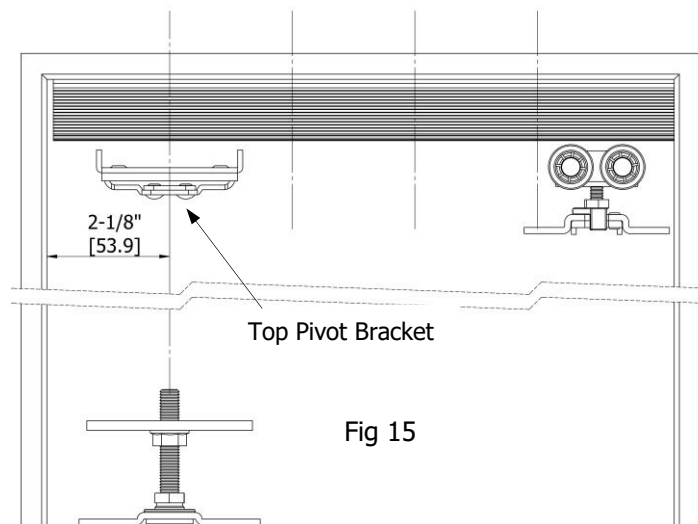

Fig 15
- Move the top pivot bracket 2-1/8" from the pivot side jamb and hand tighten (Fig 15)
- Secure the bottom pivot floor plate on the floor, at the center of the jamb depth, 2-1/8" from the pivot side jamb with (#8x1-1/2") screws (Fig 15)
- Move each top pivot bracket 2-1/8" from each jamb and hand tighten (Fig 15)
- Secure a bottom pivot floor plate on the floor, at the center of the jamb depth, 2-1/8" from each jamb with (#8x1-1/2") screws (Fig 15)